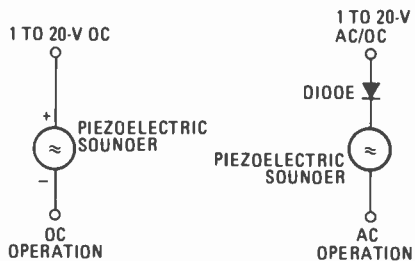

FIG. 3—BASIC CIRCUIT AND SYMBOL for the piezoelectric sounder. Sound energy is produced with as little as 1 mA.
The basic circuit for the piezoelectric sounder is shown in Fig. 3. It can be used in circuits built around TTL, CMOS, 9-volt transistor batteries, and 12-volt automobile batteries. The sound-output level increases directly with applied voltage, starting near 1 volt and increasing to 20 volts. A higher voltage, approaching 30 VDC, can be used if applied for short periods of
time (a few seconds). The piezoelectric sounder is readily available from many parts sources and its characteristics are shown in Table 1. In Fig. 3, we show a new symbol for the piezoelectric sounder using two wavy lines to indicate that it generates acoustic energy. A single wavy line (sine wave cycle) indicates a generator but without further designation as to whether it is a power generator, an audio generator, or a signal (RF) generator.